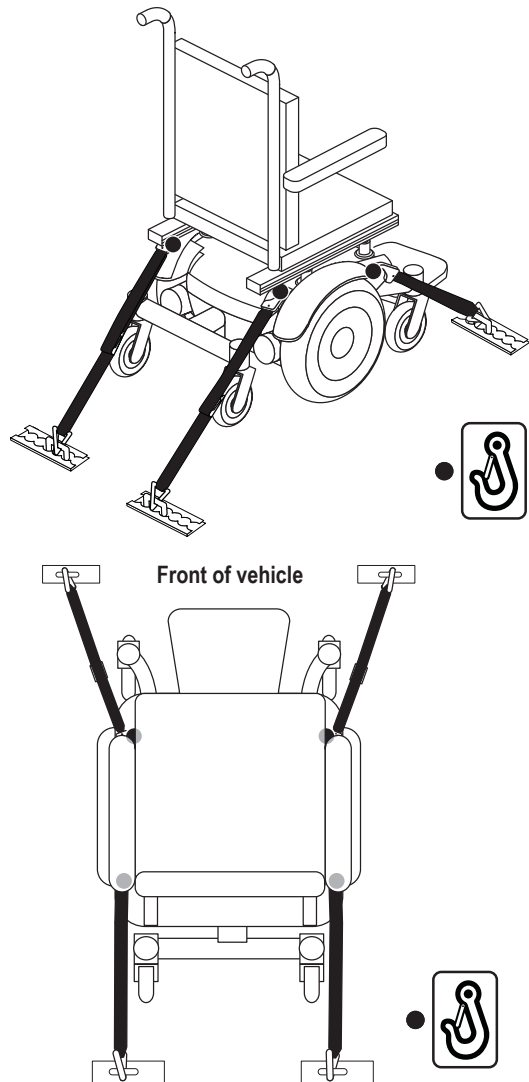

Figure 8. Unoccupied Transit System Securement Points
- Attach the four (4) tie-down straps to only designated, labeled transit securement points indicated by anchor symbols on the power chair. **See figure 8.** Tighten the straps sufficiently to remove all slack.
- Position the anchor point for the rear tie-down straps directly behind the rear securement points on the power chair. The front tie-down straps should be anchored to floor points that are spaced wider than the power chair to provide increased stability. **See figure 8.**